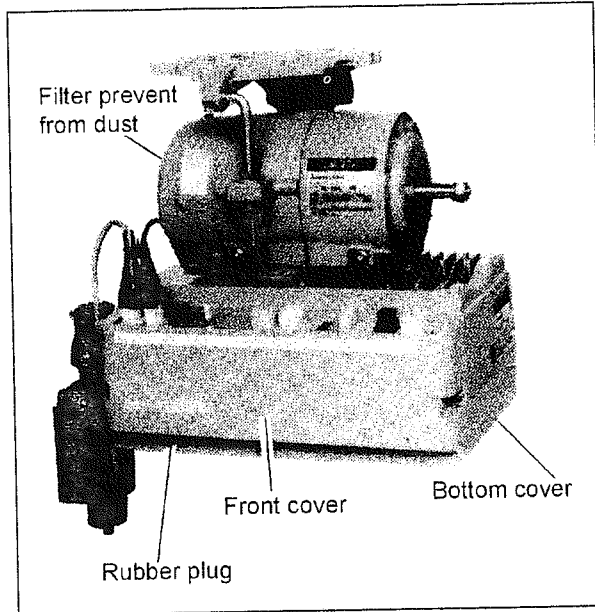

Fig.16
15、 Handling instructions (Motor and control box) (Fig.16):
- 8) When manipulating the switch in the control box, first turn off the power switch, then open the front cover (Fig.16). If you have to open the bottom cover, wait for 10 minutes after the power switch has been turned off, since a high voltage is applied inside the box. (This is vital to discharge the built-in capacitors).